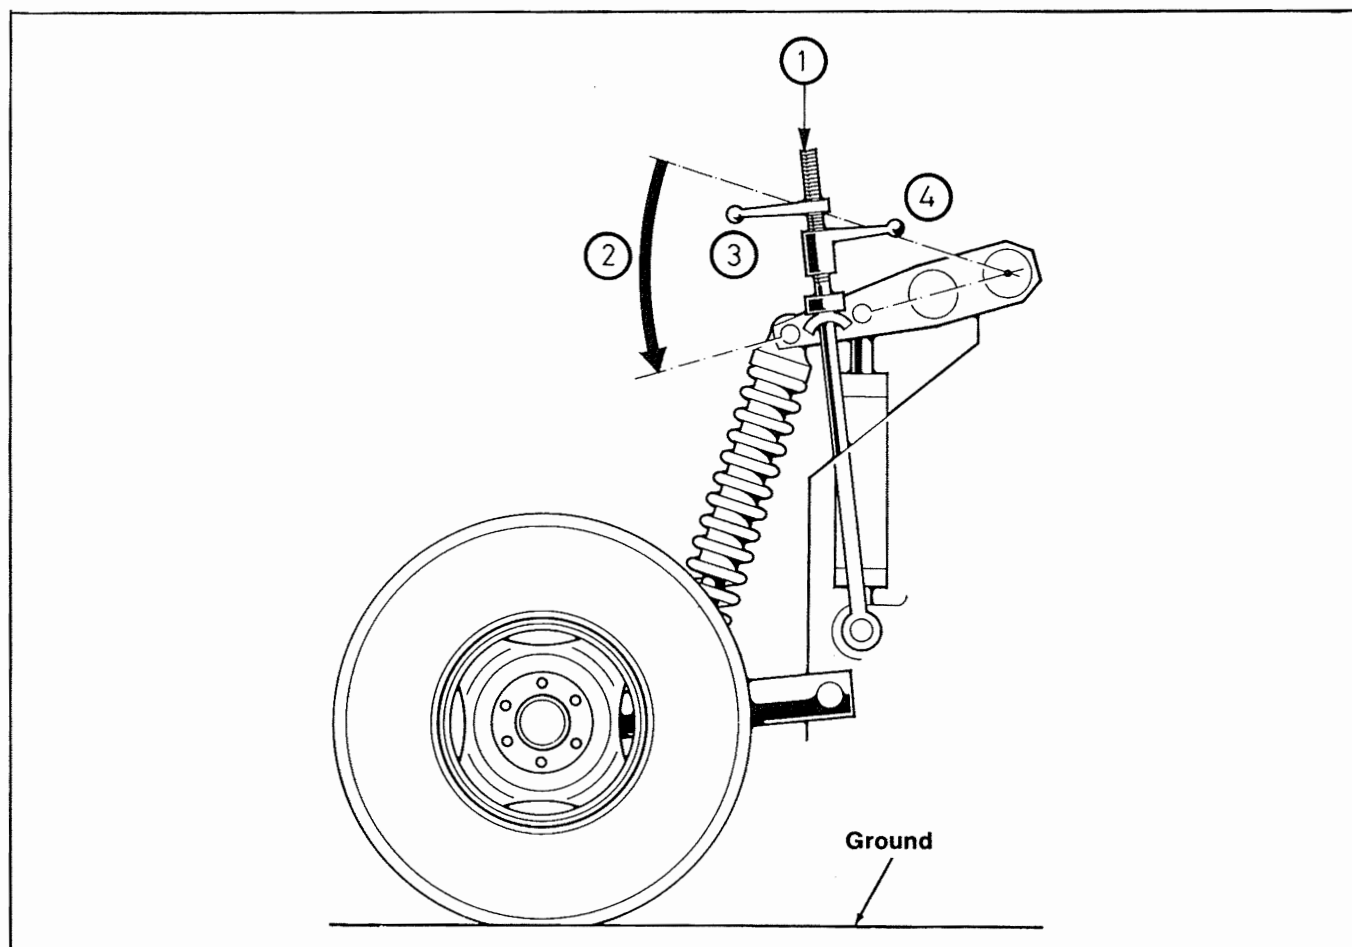

Fig. 8
The Cutterbar ground pressure is adjustable by means of a Spindle (1 of Fig. 8). The pressure can be adjusted as follows:
2. Loosen (unlock) the Lock Wing Nut (3 of Fig. 8).
4. After the desired pressure is adjusted, **BE SURE** to lock the pressure setting by tightening the Lock Wing Nut (3 of Fig. 8).